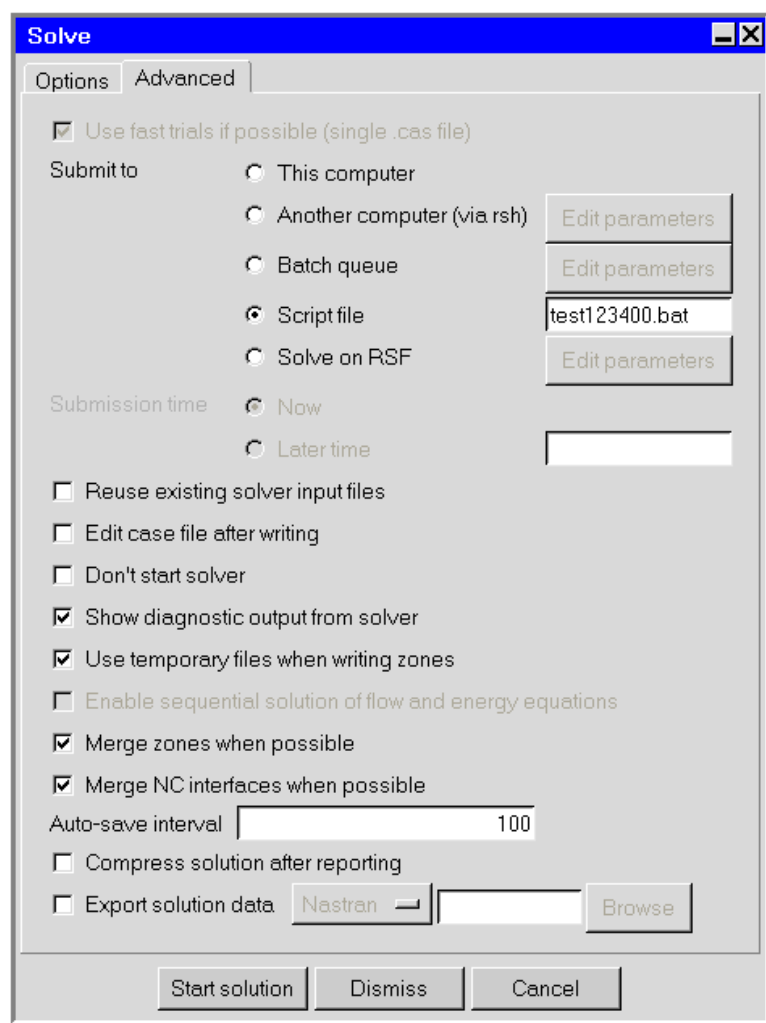

Figure 27.11.8: The Solve Panel for Batch Processing
2. Save the project to a batch file using the Solve panel (Figure 27.11.8).